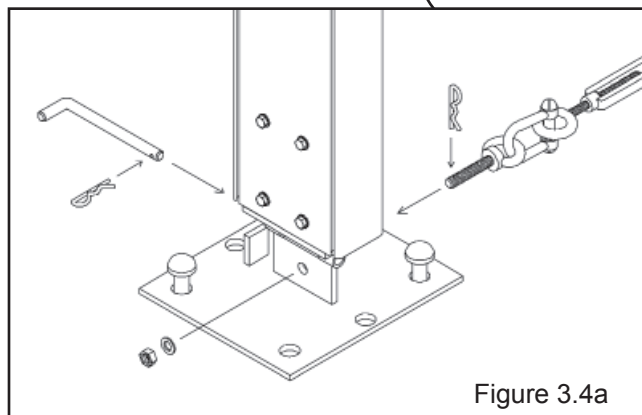

Figure 3.4a
- 3.4.1 The Upright Cables connect to the base plates by inserting an Eyebolt attached to the loose end of the cable assembly thru the hole in the base plate vertical tab as shown in **Figure 3.4a**. Secure the Eyebolt with the washer and nut provided. NOTE: The R-Clip provided will be used later to secure the wall ground rails at the End Arches if the gable end walls are installed. Adjust the tension of the cables using the turnbuckles, tension only enough to make frame stable. After the Upright Cables have been installed and tensioned, remove the Diagonal Beam Braces.